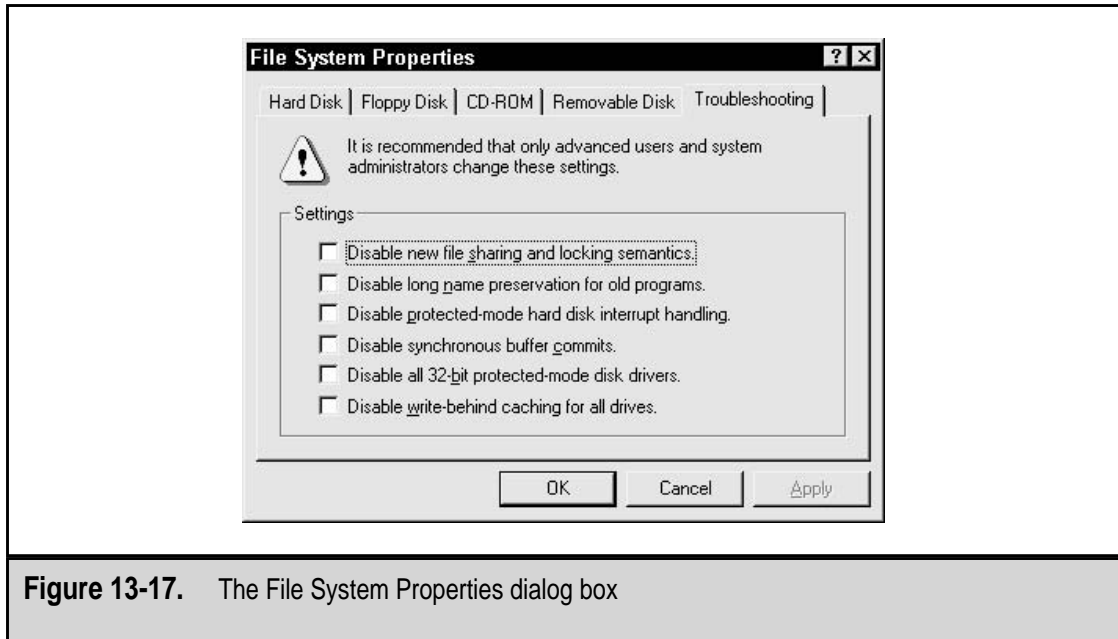

Figure 13-17. The File System Properties dialog box
3. The File System Properties window displays, as shown in Figure 13-17. Choose the Troubleshooting tab.